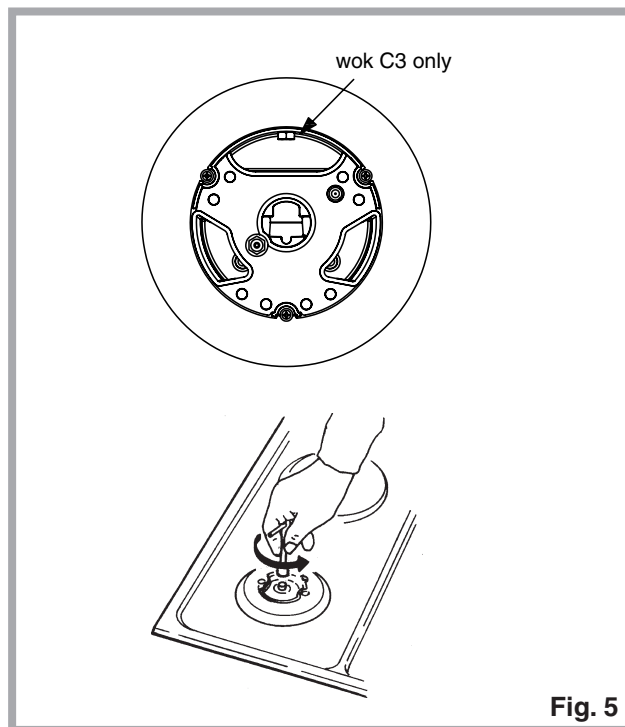

Fig. 5
Adaptation to various types of gas (Fig. 5)
- replace the injectors (Fig. 5) with the corresponding type of gas to be used (see table “Uses characteristics”).